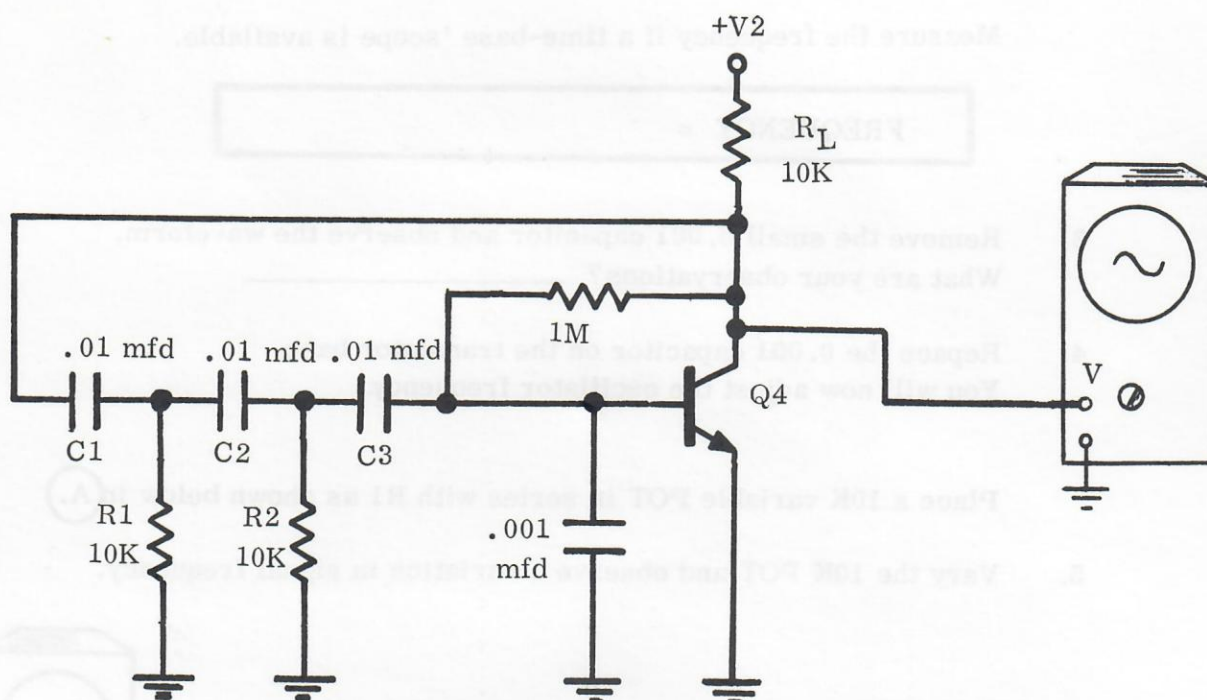

Figure 5-1 Phase Shift Oscillator
1. Wire the circuit in Figure 5-1.